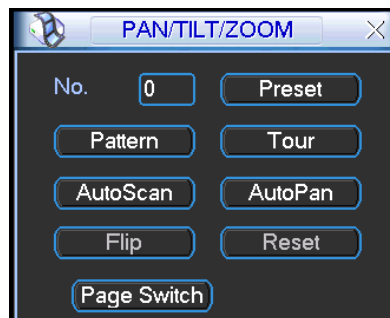

Figure 4-37
In Figure 4-33, click page switch button, the interface is shown as in Figure 4-37.
- The following setups are usually operated in the Figure 4-33, Figure 4-36 and Figure 4-37.
In Figure 4-37, please input preset number in the No. blank, and click preset button.
In Figure 4-37, input mode value in the No. blank, and click pattern button.
In Figure 4-37, click “Auto Scan” button, the system begins auto scan. Correspondingly, the auto scan button becomes Stop button. Click stop button to terminate scan operation.
In Figure 4-37, click page switch button, you can see an interface is shown as below. See Figure 4-42. Here you can set auxiliary function. The aux value has relationship with the Aux button of the decoder.